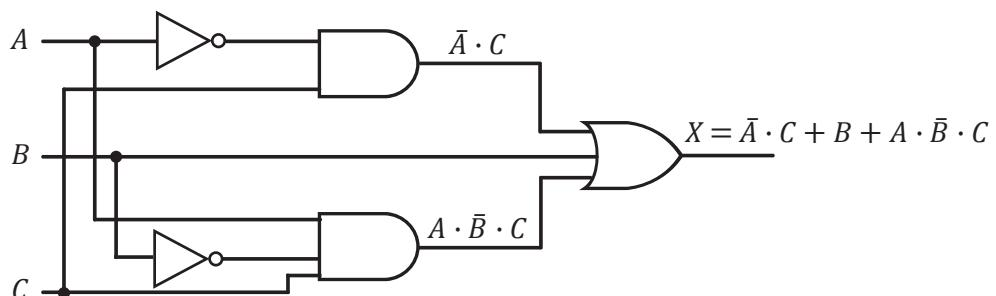

Figure 12.8
Step 2: Connect the outputs of the two logic circuits and input B to an OR gate as shown in Figure 12.8.